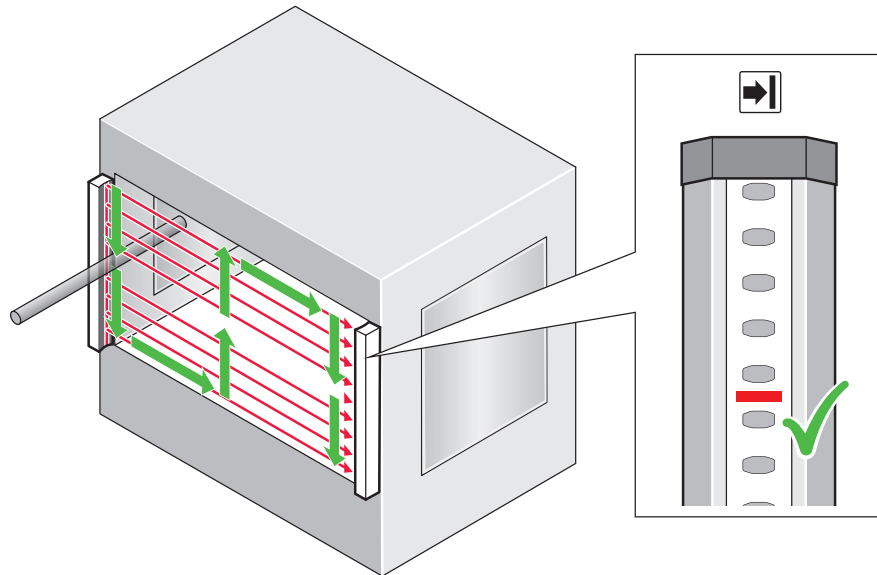

Figure 25: Test rod check: Step 1
1. Move the test rod slowly through the area to be protected (e.g., machine opening), as indicated by the arrow, see figure 25.